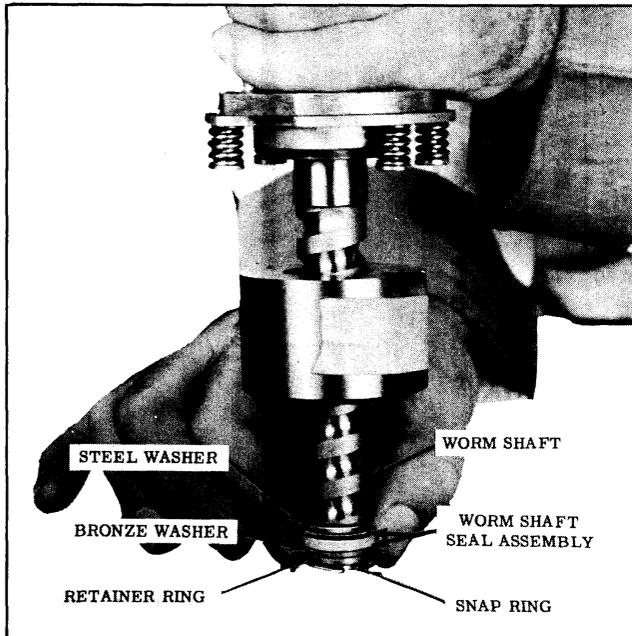

Fig. 5-59 Installing Worm Shaft Seal Snap Ring
11. While holding assembled parts, press worm shaft into snap ring, then force snap ring into groove. (See Fig. 5-59)